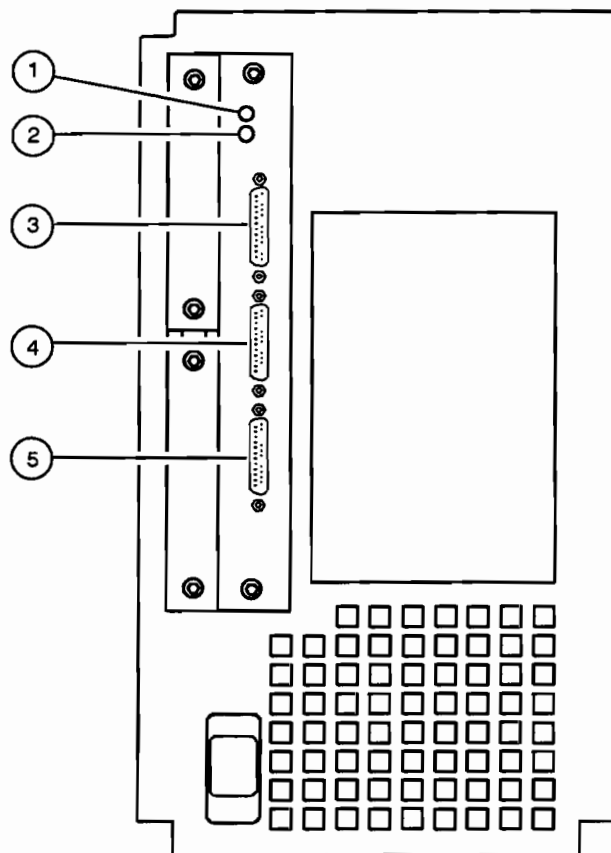

Figure 3-6. HP 9000 807S Console Terminal Connector
3. If you have the HP 9000 807S, connect the other end of the console terminal data cable to the console terminal connector at the rear of your computer. Figure 3-6, number 5, shows the location. This connector is labeled Console (port 0).